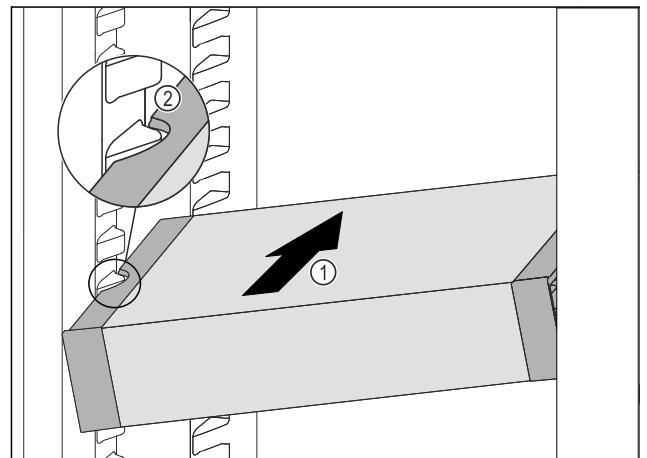

Fig. 92
- Insert the VarioSafe into the refrigerator compartment at an angle *Fig. 92 (1)* until the recesses in the side *Fig. 92 (2)* of the VarioSafe are at the level of the support rib in the refrigerator compartment.